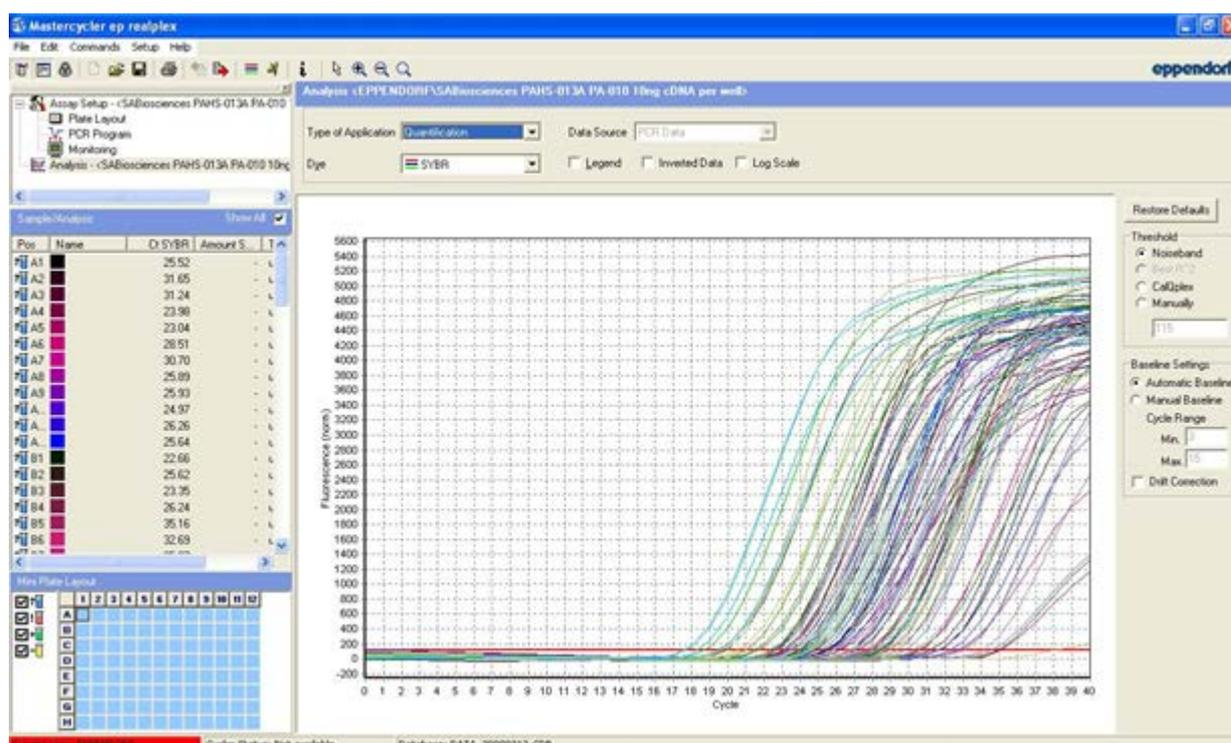

Figure 12. Quantification Analysis window.
31. Select Quantification (Figure 12) from as the type of application to obtain  $C_T$  values. Numerical values are listed in the Sample/Analysis window to the left of the screen while amplification curves are shown in the main work area as a function of fluorescence and cycle number. As a default, the curves are shown in linear scale; to view the curves in log scale, check the Log Scale box in the top panel. Click on the button to save the file with results. To view a selection of samples, highlight the desired wells in the Sample/Analysis window or in the MiniPlate Layout at the lower left part of the screen.